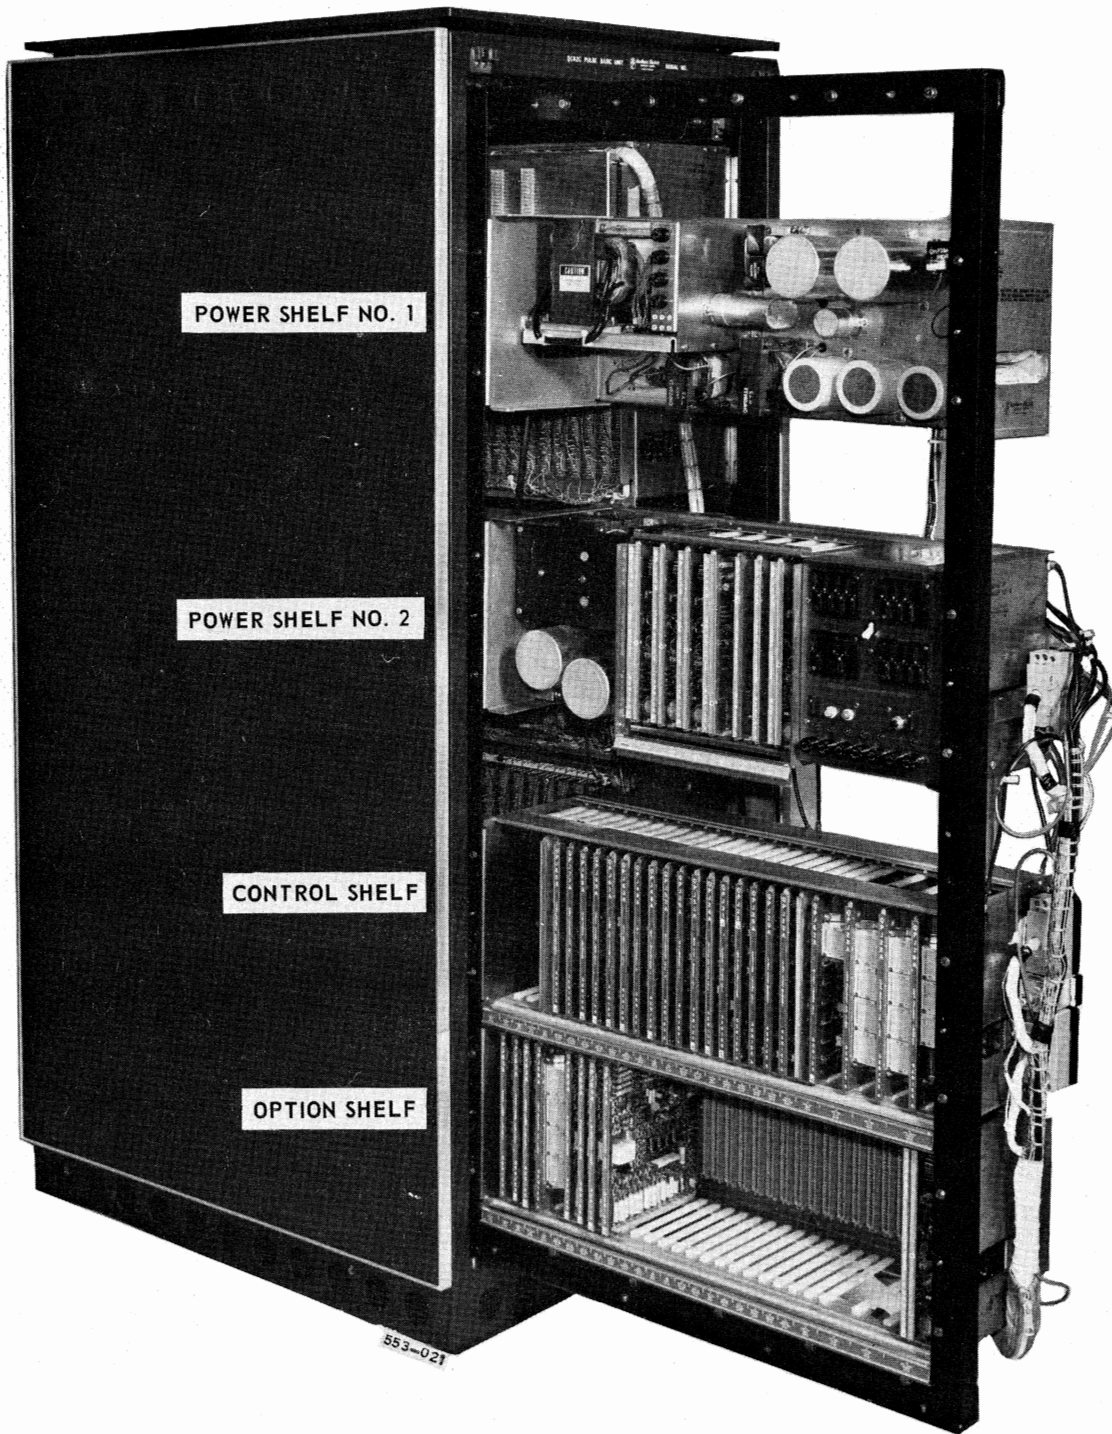

Fig. 3 — Shelf Positions on Slide No. 1
3.14 Each of the shelves is 10 inches (25,cm) high, 28 inches (71 cm) wide; and 10 inches (25 cm) deep. They are mounted in the slides with the back-plane wiring towards the inside or center of the cabinet. A view of the shelf positions seen from the front of the cabinet is shown in Fig. 3 and 4.
- 3.18 The option shelf position on slide no. 1 (Fig. 3) can be used for either a fully wired shelf or a subshelf type. When the subshelf type is installed the code restrictor and DIGITONE-to-dial pulse conversion features cannot be provided.